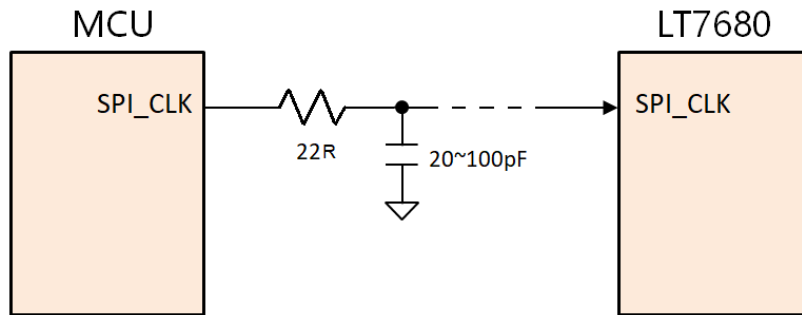

Figure 9: MCU to LT7680 SPI CLK Adding RC
- Add RC circuit on MCU to LT7680 SPI CLK. (Figure 9).